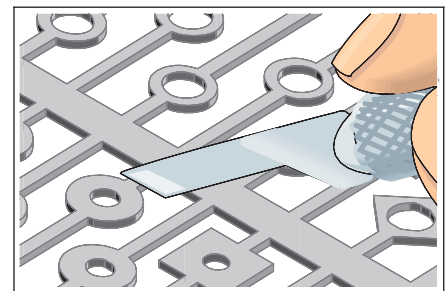

Figure 3 Cut out the replacement land.
9. Cut out and trim the new land. Cut the length to provide the maximum allowable conductor overlap for soldering. Minimum 2 times the conductor width. (See Figure 3.)